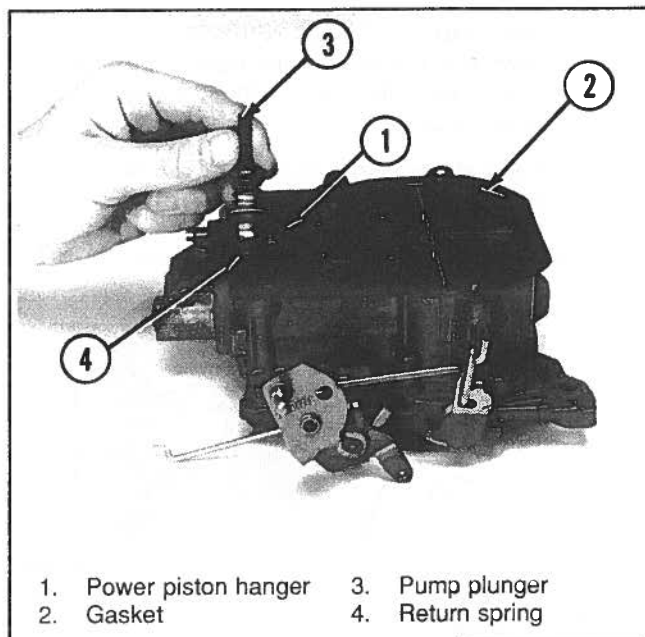

Figure 7-48. *Installation Of Gasket And Accelerator Pump*
2. Install accelerator-pump plunger (Figure 7-48).